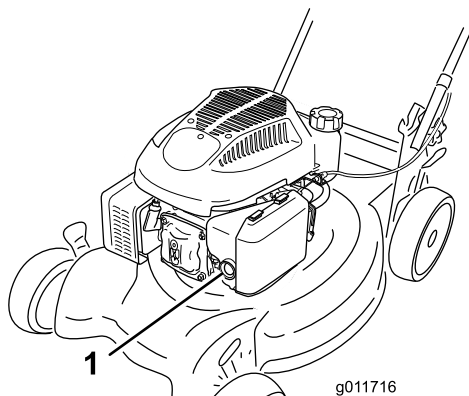

Figure 10
1. Firmly push in the primer 3 times with your thumb, holding the primer in for a second before releasing it each time (Figure 10).